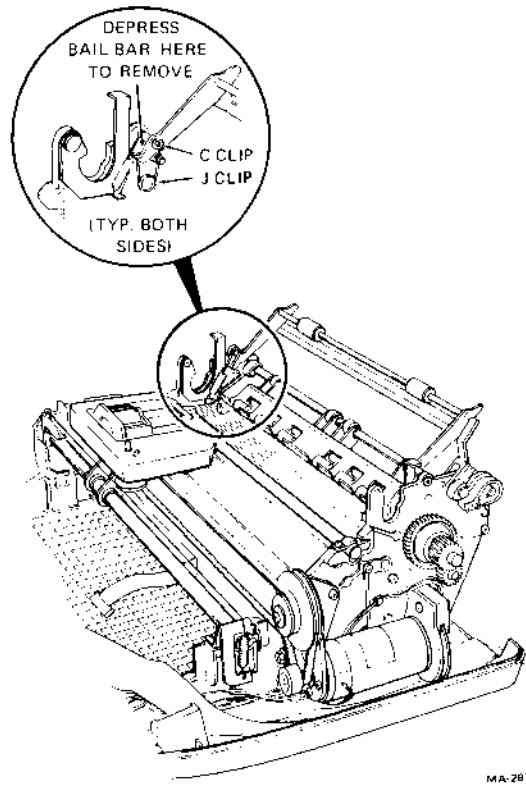

Figure 7-6 Bail Bar Assembly
2. Using needlenose pliers, remove one end of the J-clips from each end of bail bar (Figure 7-6).
3. Using needlenose pliers, remove the bail bar retainer rings (C clips) from each end of the bail bar (Figure 7-6).
4. Press both ends of the bail bar and lift straight up (Figure 7-6).